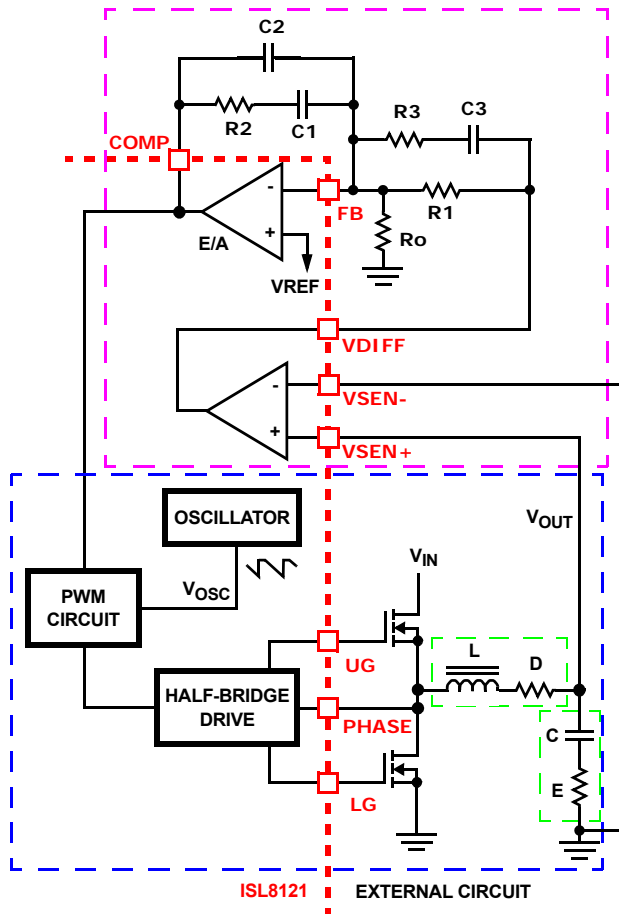

FIGURE 24. VOLTAGE-MODE BUCK CONVERTER COMPENSATION DESIGN
Figure 24 highlights the voltage-mode control loop for a synchronous-rectified buck converter, applicable, with a small number of adjustments, to the multi-phase ISL8121 circuit. The output voltage (V_{OUT}) is regulated to the reference voltage, VREF, level. The error amplifier output (COMP pin voltage) is compared with the oscillator (OSC) modified saw-tooth wave to provide a pulse-width modulated wave with an amplitude of V_{IN} at the PHASE node. The PWM wave is smoothed by the output filter (L and C). The output filter capacitor bank's equivalent series resistance is represented by the series resistor E.
1. Select a value for $R1$ ($1\text{k}\Omega$ to $5\text{k}\Omega$, typically). Calculate value for $R2$ for desired converter bandwidth (F_0). If setting the output voltage via an offset resistor connected to the FB pin, R_o in Figure 24, the design procedure can be followed as presented. However, when setting the output voltage via a resistor divider placed at the input of the differential amplifier, in order to compensate for the attenuation introduced by the resistor divider, the obtained $R2$ value needs be multiplied by a factor of $(R_p + R_s)/R_p$. The remainder of the calculations remain unchanged, as long as the compensated $R2$ value is used.